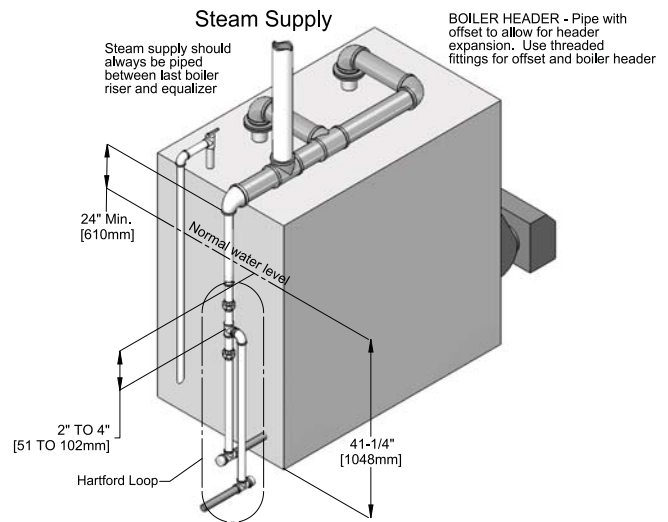

Figure 3.2: Typical piping arrangement for boilers with two risers.
- c) See Figure 3.2 for a typical piping arrangement for boilers with two risers.